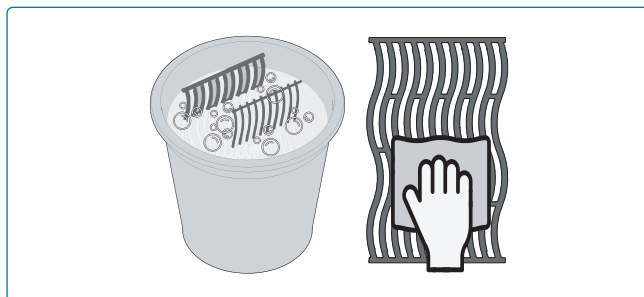

Fig. 19
2. Rinse with hot water and dry thoroughly with a soft cloth to prevent rust (**Fig 19**).